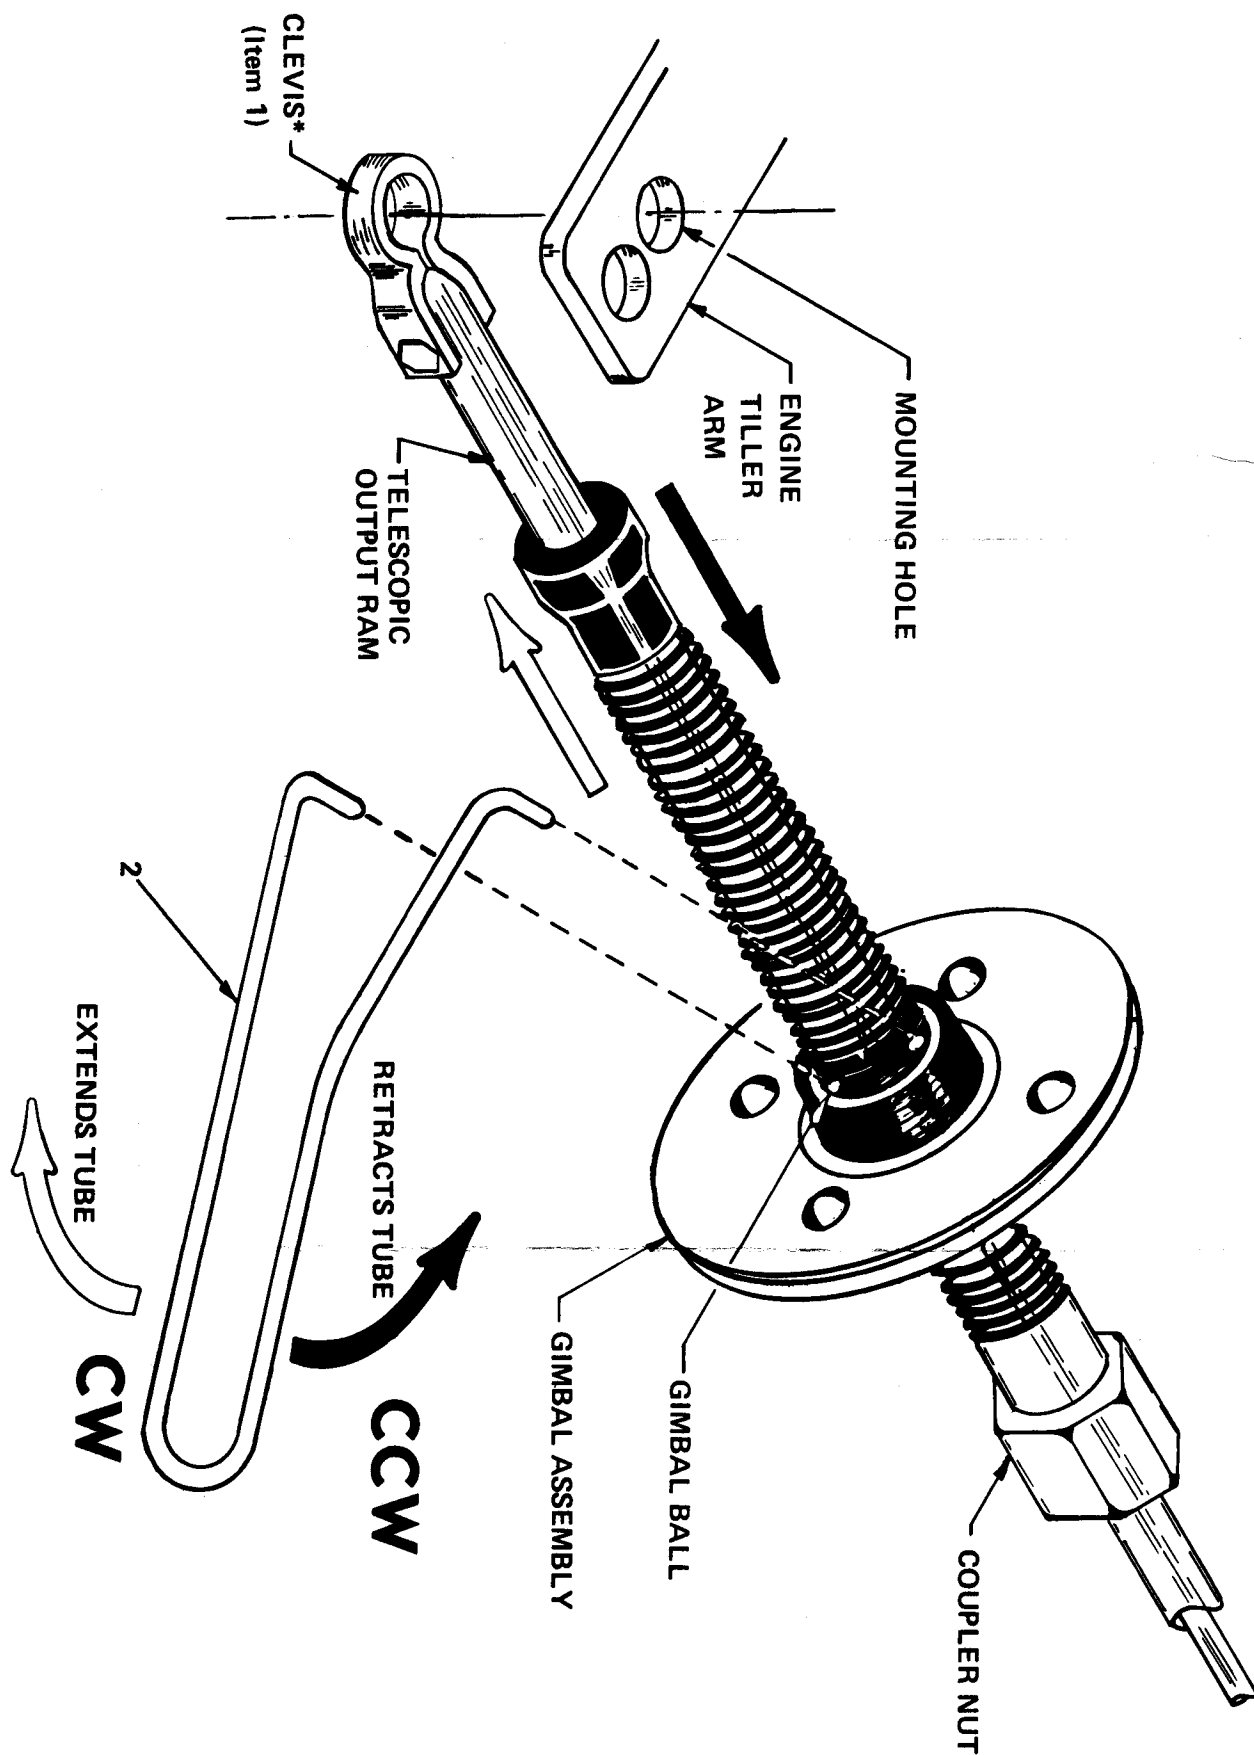

FIGURE 4
1. Install Clevis to telescopic stud following instructions packed with the Clevis Kit (item 1).
4. Insert tips of Spanner wrench (Item 2) into holes in Gimbal ball (see Figure 4).
5. Rotate Gimbal ball with Spanner wrench as shown in Figure 4. Continue with adjustment until hole in Clevis (with telescopic in mid-position) aligns with tiller arm hole (with motor dead ahead).